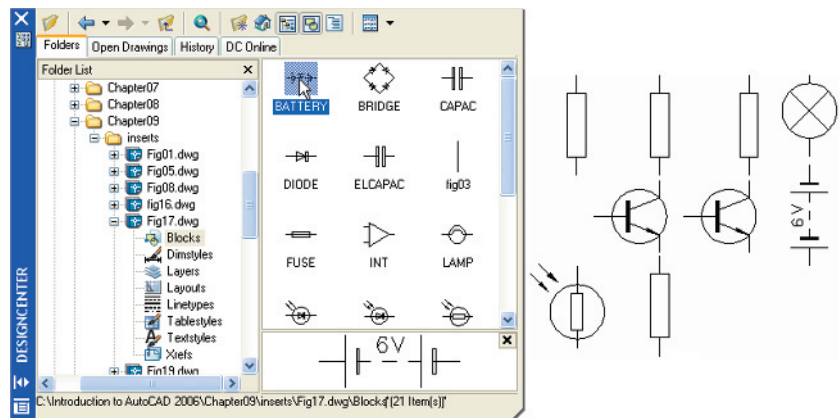

Fig. 9.18 Using the DesignCenter
4. From the **Folder list** select the file **Fig17.dwg** and *click* on **Blocks** under its file name. Then *drag* symbol icons from the **DesignCenter** into the drawing area as shown in Fig. 9.18. Ensure they are placed in